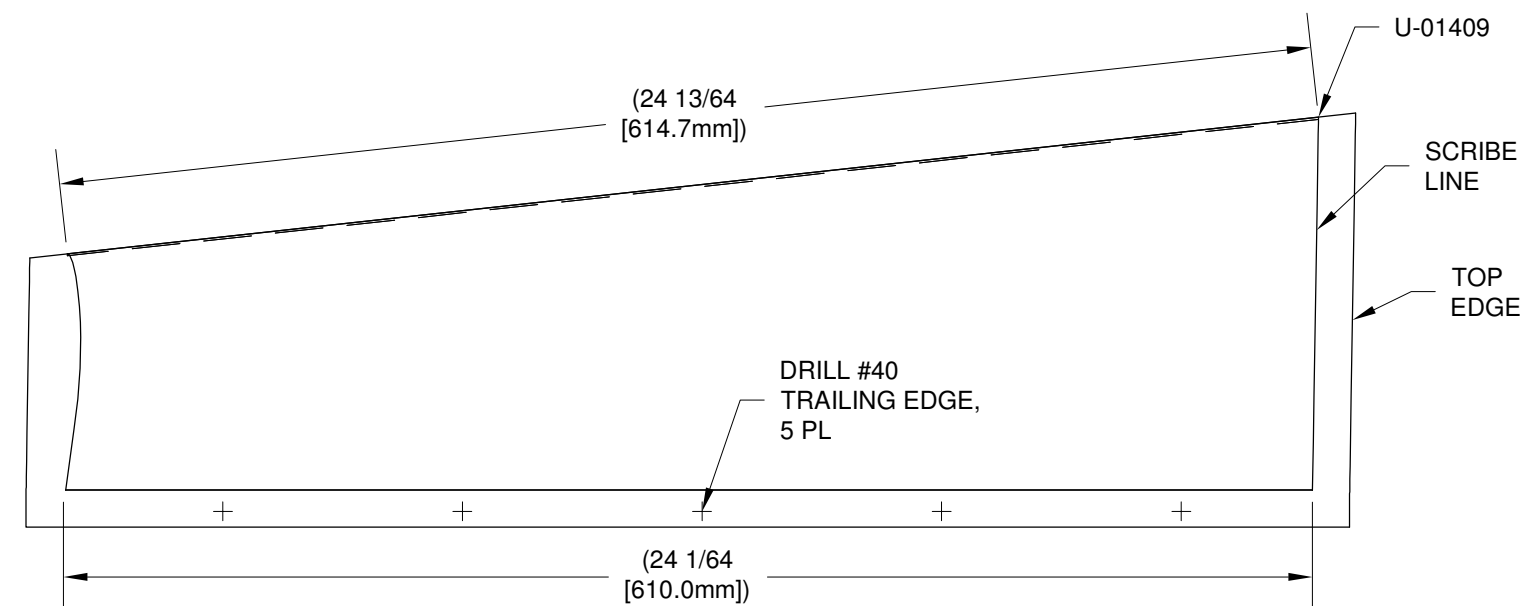

FIGURE 3: SECURING TRAILING EDGE
Step 4: Trim the top and bottom edges of the U-01409 Main Gear Leg Fairings to within 1/16 [1.6 mm] of the provided scribe lines. Do not trim the trailing edge. See Figure 3.